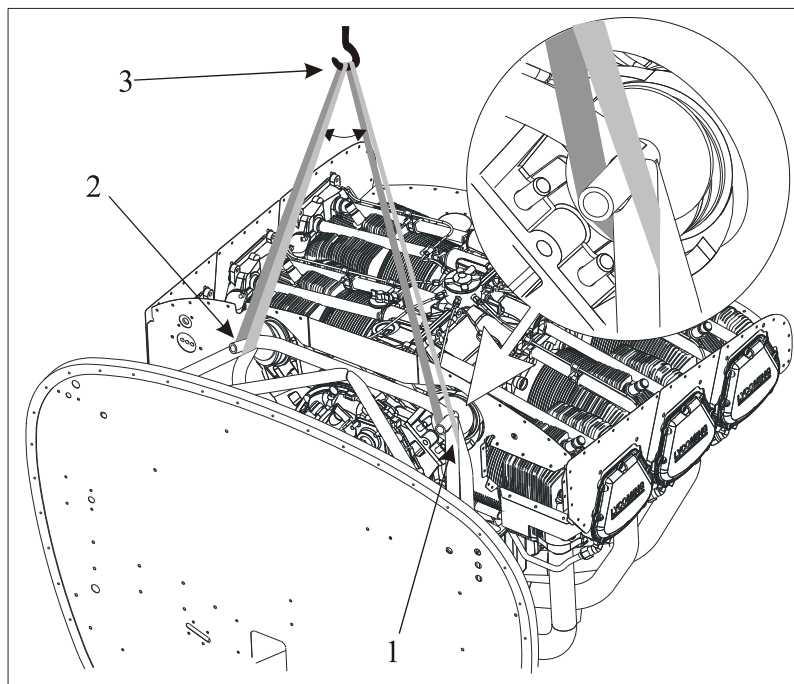

Figure 2 Hoisting Points
- 3 Hoist the aircraft by means of the aircraft hoisting point (1 & 2, Figure 2).
- 4 Shore the aircraft by means of two supports (2), which are to put under the left and right bottom longeron each in the area behind the landing gear as shown in Figure 2. This is possible also, when the landing gear is installed.